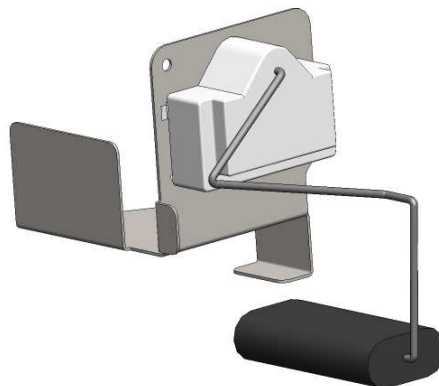

FIGURE 1-2
- 1-6. From the old OEM fuel tank, remove the filler neck rubber grommet, fuel level sender, vent and vent grommet, and wiring harness. Inspect all parts for damage, if none found, reinstall in the new Aeromotive tank. If any of the OEM components are damaged replacement parts are available through your local Ford dealer or auto parts store. Use **FIGURE 1-2** to install the factory fuel level sender onto the provided fuel level bracket.